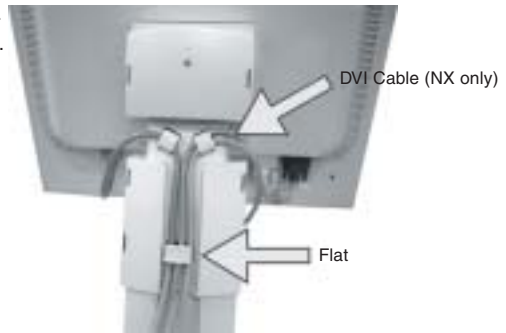

Figure C.3
- 7. Place the DVI cable into the specific hooks indicated in **Figure C.3**.
- 8. Make sure all cables are resting flat against the stand (**Figure C.3**).